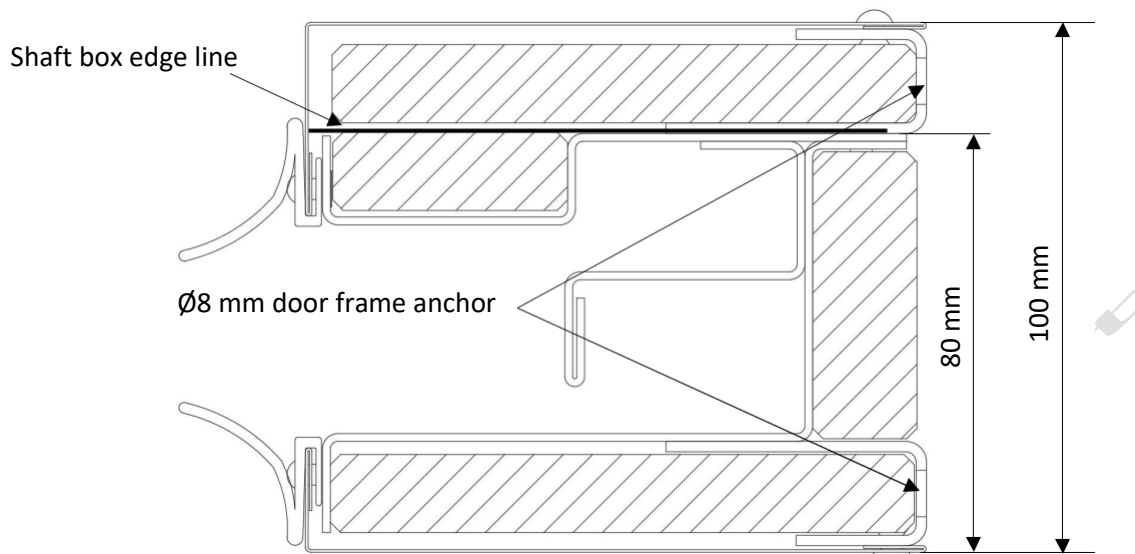

Fig. 27. Installation of the guide rails
- With the guide rail internal parts installed (as shown in Fig 27), install the Promat fire-proof panels and the outer fascia. Leave 2 mm of play for the fascia gaskets.